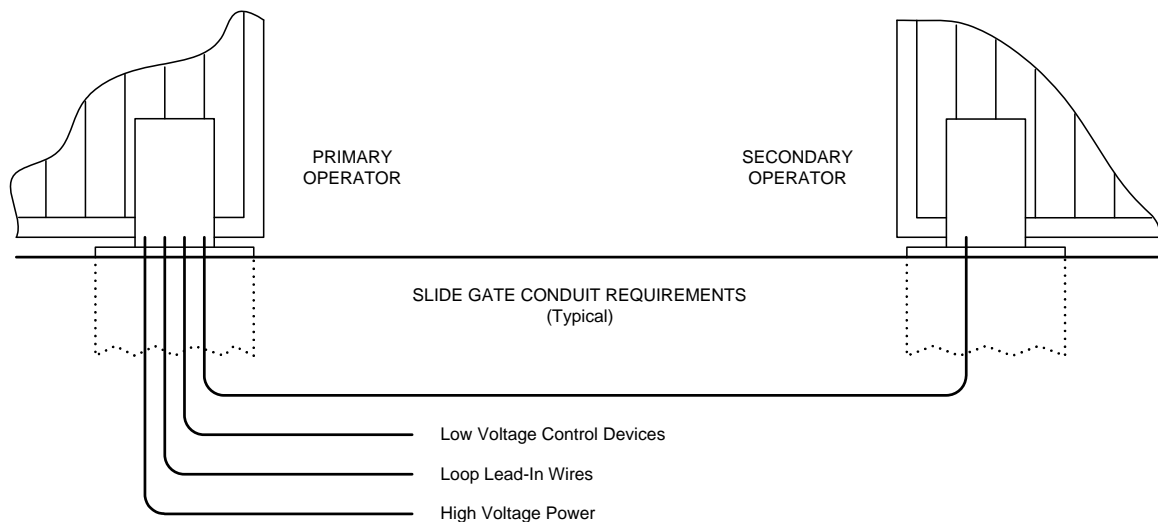

Figure 23
- The conduit requirements shown in figure 23 are for a typical slide gate operator installation (the secondary operator is shown for those applications where a secondary operator may be used). The conduit requirements for your application may vary from this depending on your specific needs.